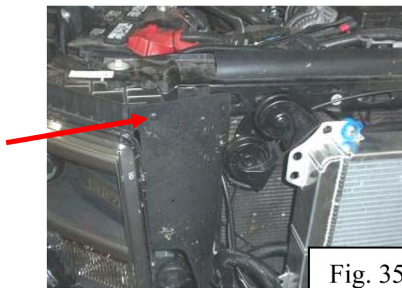

Fig. 35
33. Reinstall the rubber air deflector on the passenger side using the Phillips head plastic snap that was removed (Fig. 35).